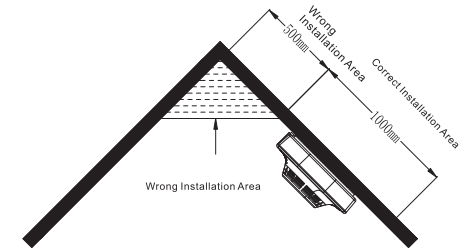

Figure 2-2
- When it is installed on tilted or pedestrian roof, the detector shall keep certain distance from the roof. The distance shall be 500mm when gradient is less than 30°, and shall be 500mm~1000mm when gradient is larger than 30°, as shown in Figure 2-2.